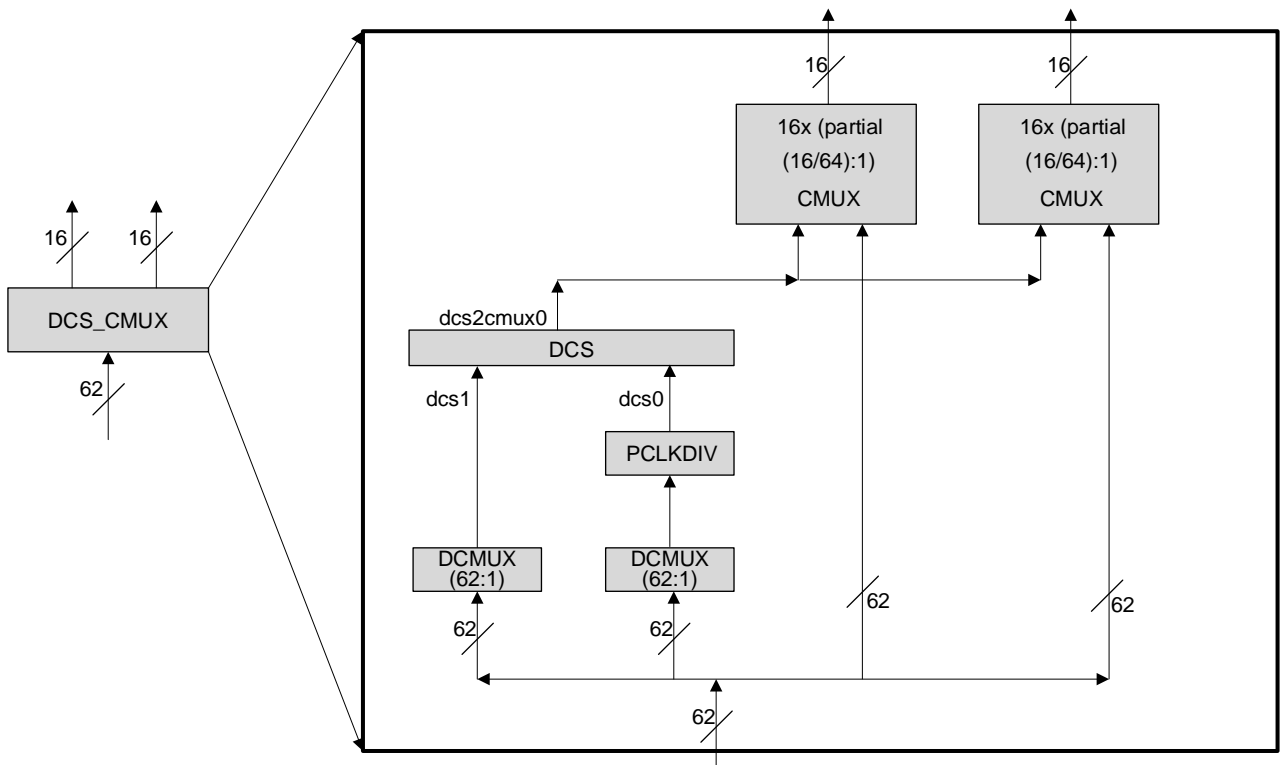

Figure 2.12. DCS_CMUX Diagram
The PCLKDIV supports $\div 2$, $\div 4$, $\div 8$, $\div 16$, $\div 32$, $\div 64$, $\div 128$, and $\div 1$ (bypass) operation. The PCLKDIV is fed from a DCSMUX within the DCS_CMUX block. The clock divider output drives one input of the DCS Dynamic Clock Select within the DCS_CMUX block. The Reset (RST) control signal is asynchronous and forces all outputs to low. The divider output starts at next cycle after the reset is synchronously released. The PCLKDIV is shown in context in Figure 2.12.
All clock sources are selected and combined for primary clock routing through the Dynamic Clock Selector Center Multiplexer logic (DCS_CMUX). There are one (1) or two (2) DCS_CMUX blocks per device. Each DCS_CMUX block contains 2 DCSMUX blocks, 1 PCLKDIV, 1 DCS block, and 1 or 2 CMUX blocks. See Figure 2.12 for a representative DCS_CMUX block diagram.